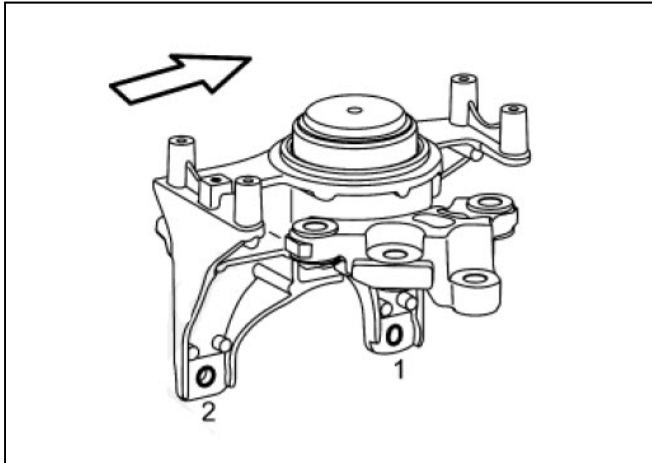
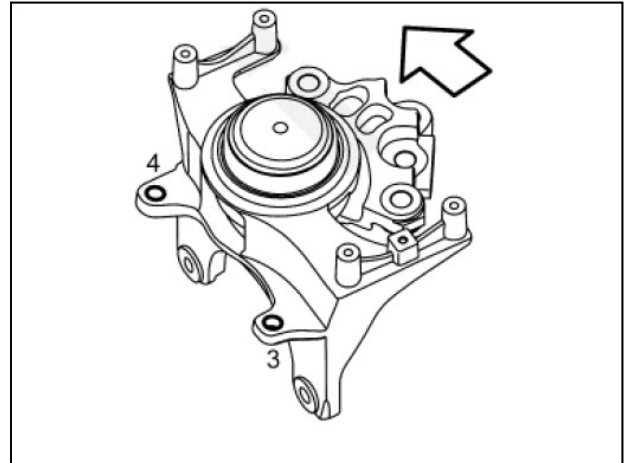

Figure 5
Figure 6
39. Install and tighten the LH side engine mounting insulator bolts in the sequence shown in Figure 5 and Figure 6.